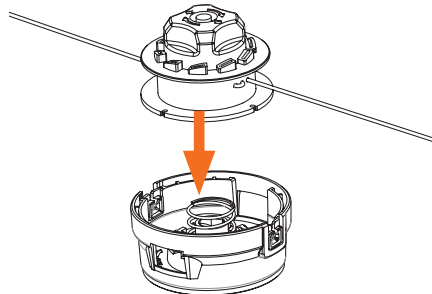

Figure 9
5. Attach the spool to the retainer (see Figure 9).